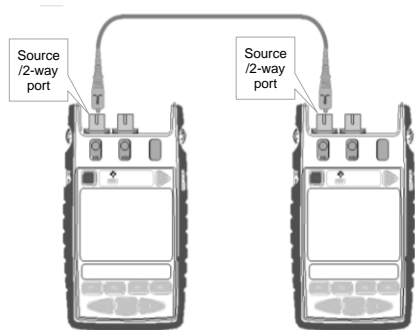

Figure 12. Test set up for Two Way Calibration Accuracy Test
3. To check accuracy, remove the test lead on one instrument and re-connect the other test lead as in Figure 12.